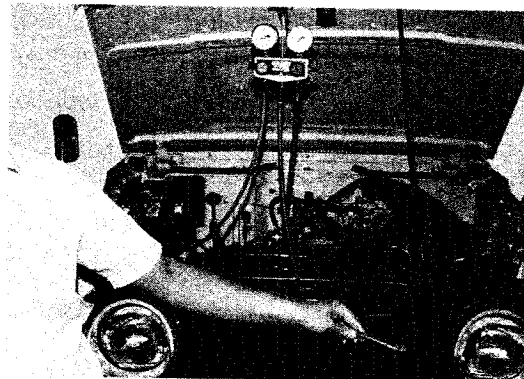

Fig. 53
- 1) Discharge the refrigerant very slowly from the refrigeration system. See Fig. 53.
- 1) Discharge the refrigerant very slowly from the refrigeration system. See Fig. 53. (Refer to "SAFETY PRECAUTIONS" on page 5.)